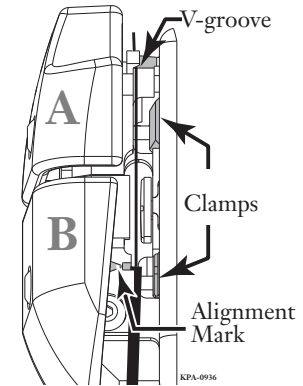

Figure 69 — Open Clamps
Step 1: Ensure that both clamps are clean and free of fiber (Figure 69).